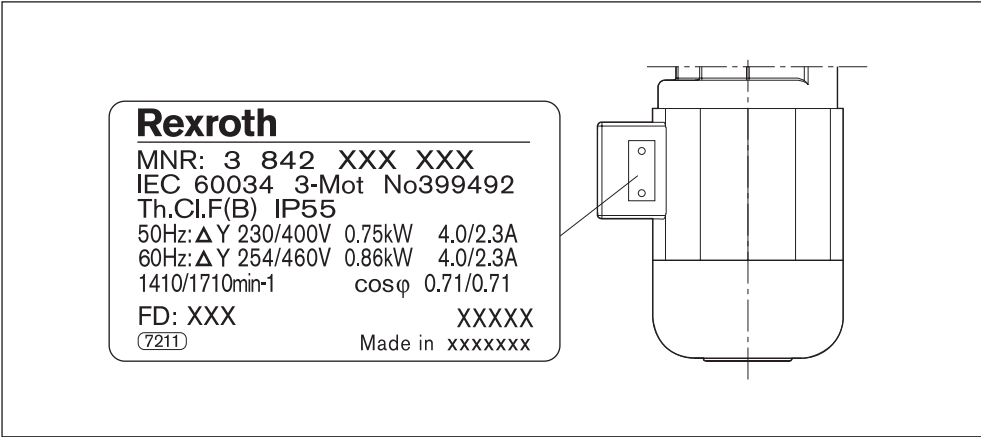

Fig. 43: Motor nameplate (example)
- Observe the electrical connector information on the motor nameplate, see Fig. 43 on page 57.